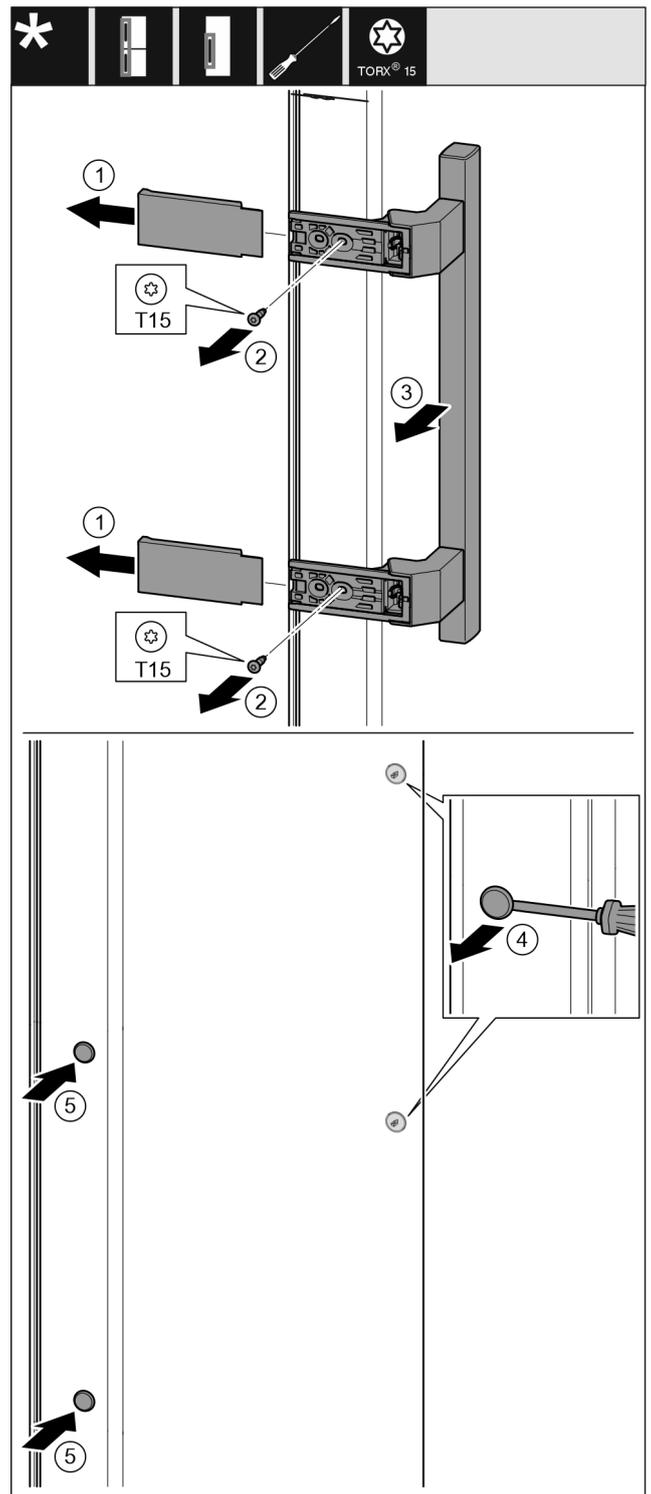

Fig. 17
- ▶ Pull off the cover. Fig. 17 (1)
- ▶ Remove the screws with the T15 screwdriver. Fig. 17 (2)
- ▶ Remove the handle. Fig. 17 (3)
- ▶ Carefully lift up the side plugs with a slotted screwdriver and pull them out. Fig. 17 (4)
- ▶ Insert the plugs again on the other side. Fig. 17 (5)